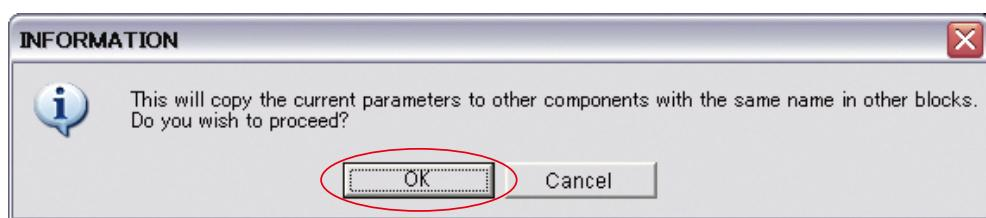

Figure 1-11 Fiducial Mark 3
Step26: The dialog shown in Figure 1-11 appears and press **OK**.